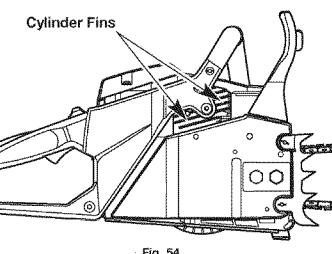

Fig. 54
- Debris must be removed from the cylinder fins on a regular basis to reduce the risk of damage to the unit and personal injury from fire. Use compressed air, at 40 PSI or lower, to blow debris from the cylinder fins (Fig. 54). Always wear safety goggles/glasses when cleaning the cylinder fins with compressed air. Use a small wire brush to dislodge stubborn debris. Do not use water or solvents on the cylinder fins. If there is a significant amount of debris that remains after cleaning, have the cylinder fins cleaned by an authorized service dealer.